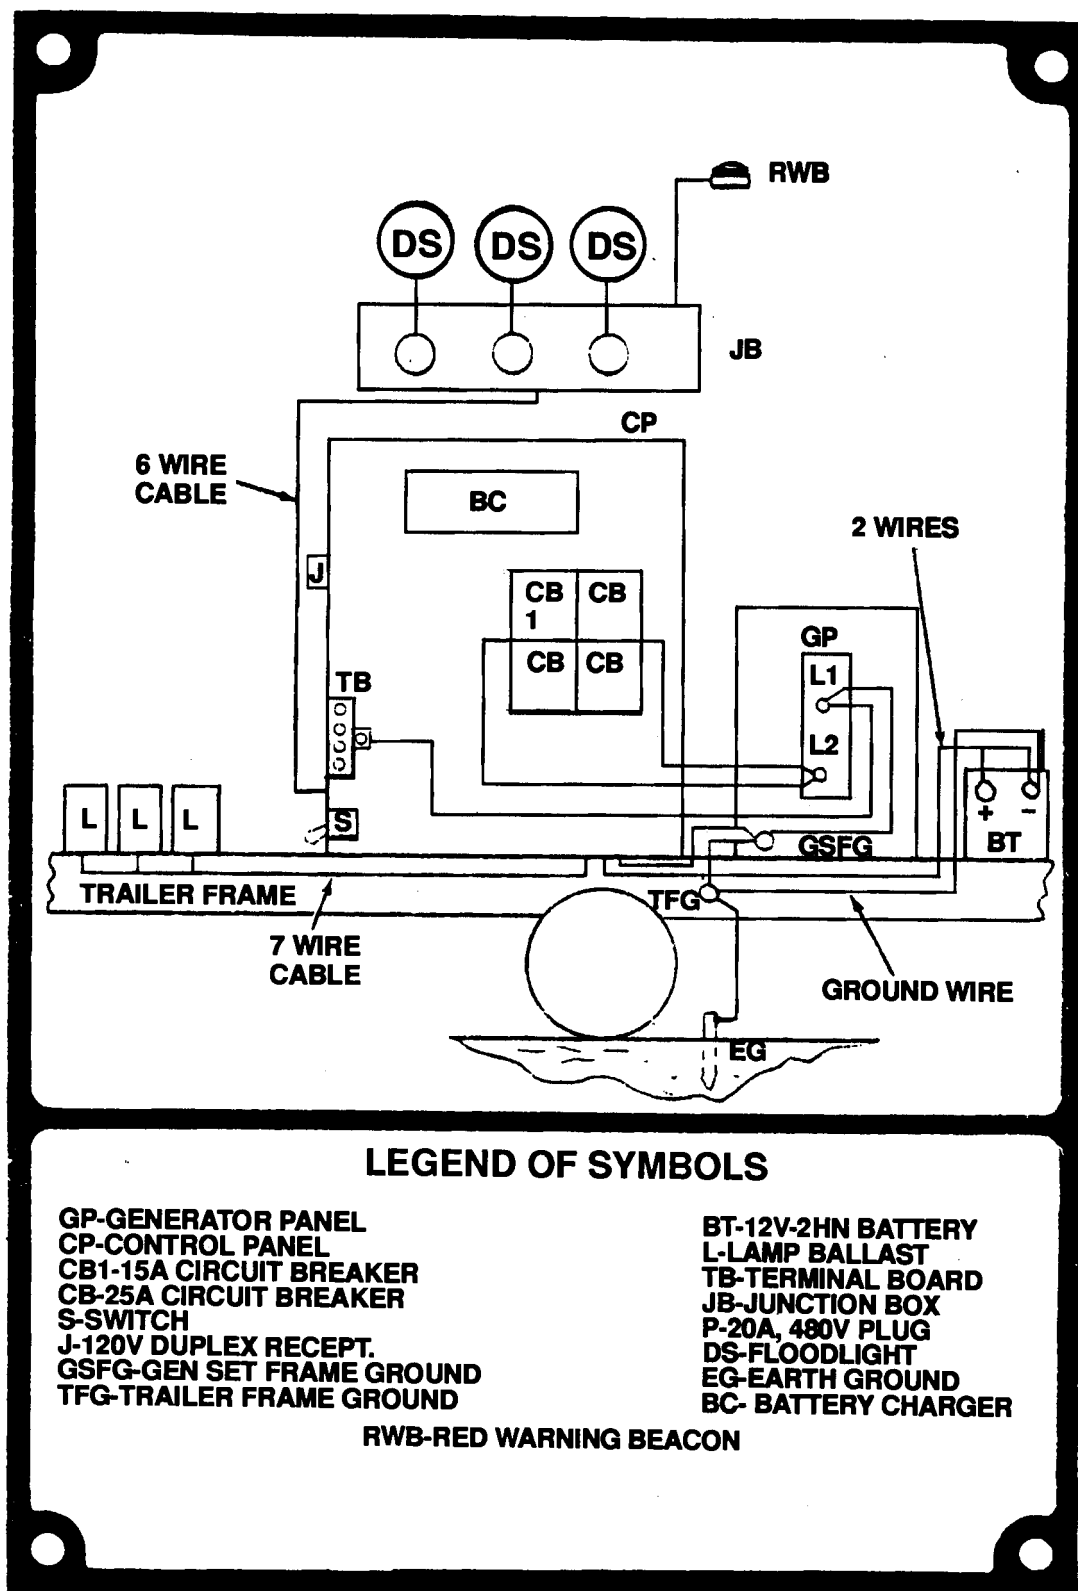

Figure 1-3. Schematic Wiring Diagram.
a. The floodlight set operates from the 120-volt, single-phase terminals on the engine-generator set. For operation with a 3-kW generator set, the floodlight set is connected to terminals L1 and L2 of the generator output terminal board or generator panel (GP). The black wire and green wire in the main power cable (cable from the control panel to the generator panel) are connected to one terminal, and the white wire is connected to the other terminal.
b. Activation of CB1, 15-amp (A) single pole single throw (SPST) circuit beaker, applies power to the duplex receptacle and battery trickle charger. The charger applies the 12-volt operating power to the RED WARNING LIGHT TOGGLE SWITCH (S) and battery. Toggle Switch (S) applies power to the RED WARNING LIGHT (RWL).
- c. Three circuit breakers (CB), apply 120-vac 25-amps to Ballast (L) through the Control Panel Terminal Strip (TS). The output of each ballast transformer applies operating power to each of the floodlights (DS) the tower junction box (JB) and twist lock plugs and receptacles (P).
- e. The schematic wiring diagram for the floodlight set is shown in Figure 1-3.